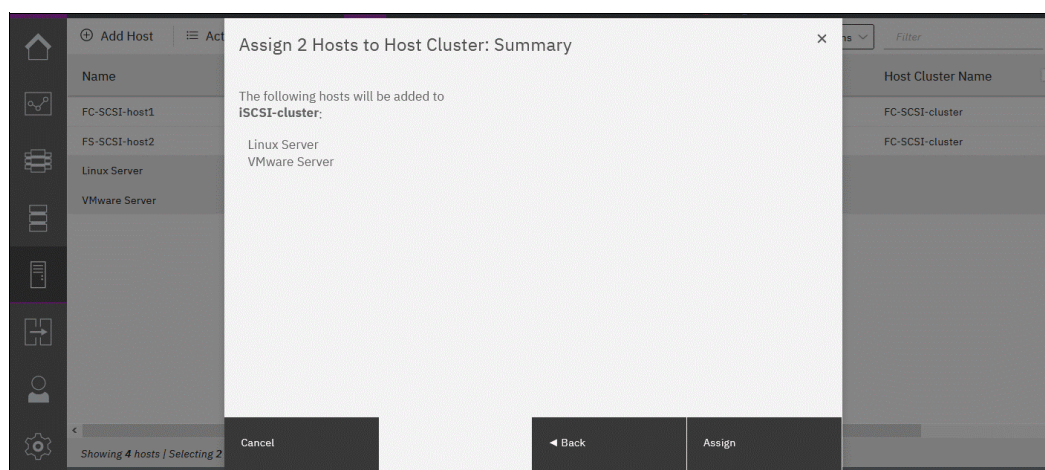

Figure 7-40 Assign host to host cluster confirmation
3. The IBM FlashSystem storage system checks for SCSI ID conflicts. In a host cluster, all hosts must include the same SCSI IDs for a mapped volume. For example, a single volume cannot be mapped with SCSI ID 0 to one host and with SCSI ID 1 to another host. If no SCSI ID conflict is detected, the system provides a list of configuration settings for verification (see Figure 7-40). Click **Assign** to complete the operation. When the operation completes, the host are included in all host cluster volume mappings.